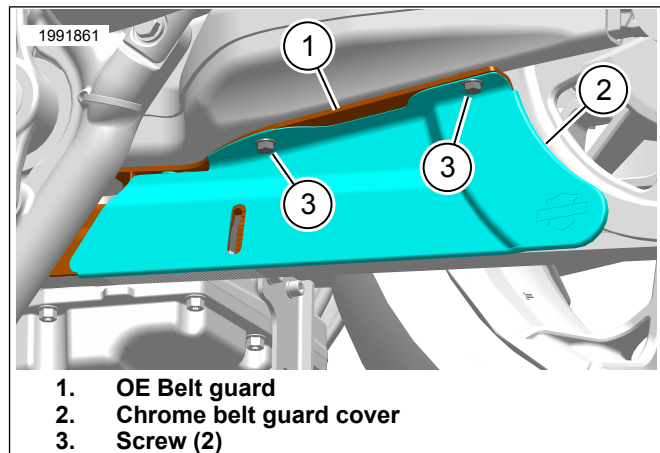

Figure 3. Install Chrome Cover
1. See Figure 3. Install chrome belt guard cover (2) over OE belt guard (1).
2. Install screws (3) loosely.
3. Make sure that the chrome belt guard cover does not contact the drive belt, tire or wheel. If necessary, loosen screws (3) and reposition for clearance.
4. Tighten screws (3).